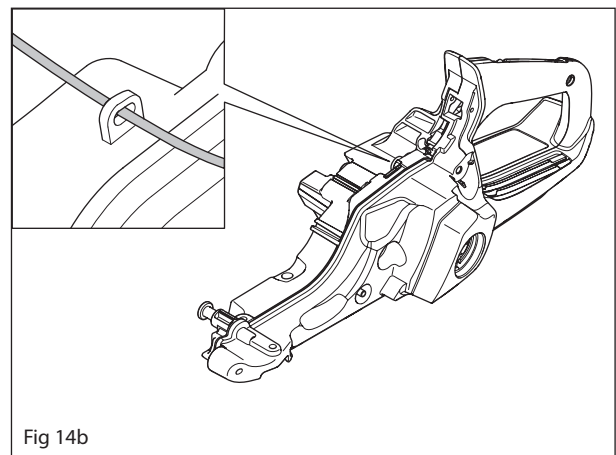

Fig 14b
Loosen the return hose B and the tank bleeding hose C. See Figure 16. Loosen the fuel tank's rear mounting bracket, i.e. the rear vibration element (D). Loosen the screw F as outlined in Figure 14 a and remove the limiter cap band. Lower the tank as much as possible to access the attachment for the generator cable on the tank. See Figure 14b.